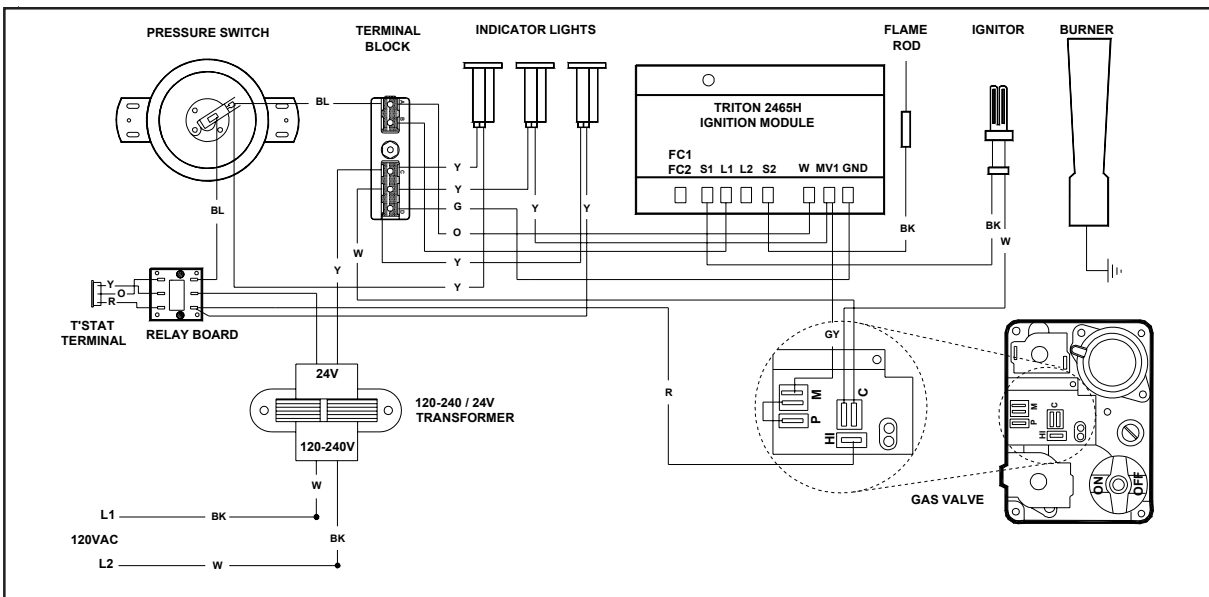

Figure 4-1 Block Wiring Diagram
3. The system must be installed in accordance with the typical wiring diagrams (see Figures 4-1 & 4-2).
#### Starting Circuit (Figures 4.1 and 4.2)